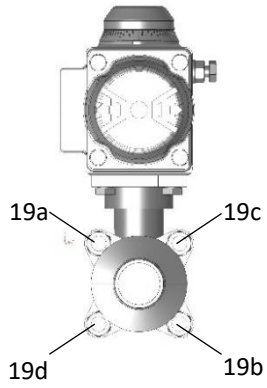

Figure 8: Arrangement of locking nuts
8. Tighten nuts **19a - 19d** crosswise and counter with wrench, see Figure 8.